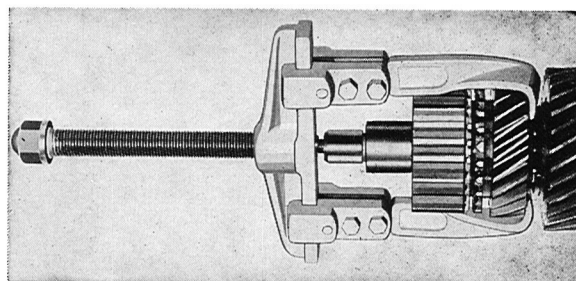

Fig. 4-31. Front synchronizer removal
3. Remove the snap ring on the front end of the shaft. Pull off the synchronizing hub and 3rd speed gear with a puller, see Fig. 4-31. Remove the thrust washer.